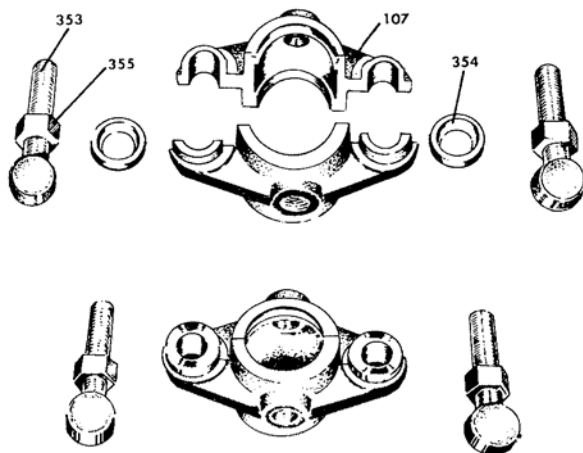

Figure 11:
- e) Insert gland packing (210) into recess in each gland half and trim off excess flush with face of each gland half.
- f) Run ½"-13 UNC nuts (355) about threefourths the length of the threaded part of bolts (353) and place cupped washers (354) on gland bolts. (See Figure 11: on page 20).
- g) Insert lower half gland (107) into stuffing box.